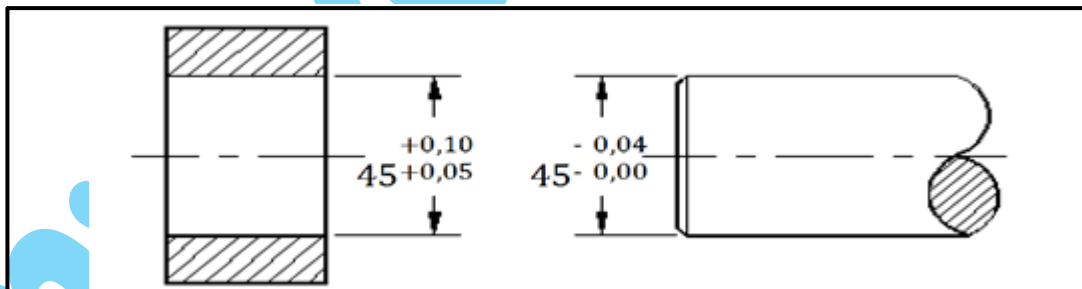

FIGURE 1
- 3.1 FIGURE 1 below shows the dimensions of the slide fit of a shaft into a bush.